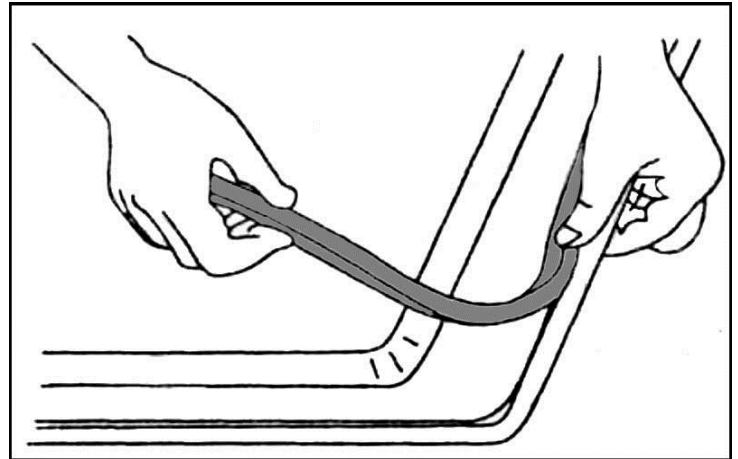

Figure 10
- 3) Before inserting the cooktop into the opening in the countertop, remove the grates and burner caps, turn the cooktop upside down and place the special foam gasket around the bottom edge of the cooktop (see Figure 10). It is important to fix this gasket evenly, without gaps or overlapping, to prevent liquid seeping underneath the cooktop.